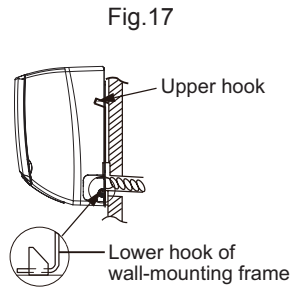

Fig. 17
- (5) Check if the indoor unit is installed firmly and closed to the wall.(As show in Fig.17)